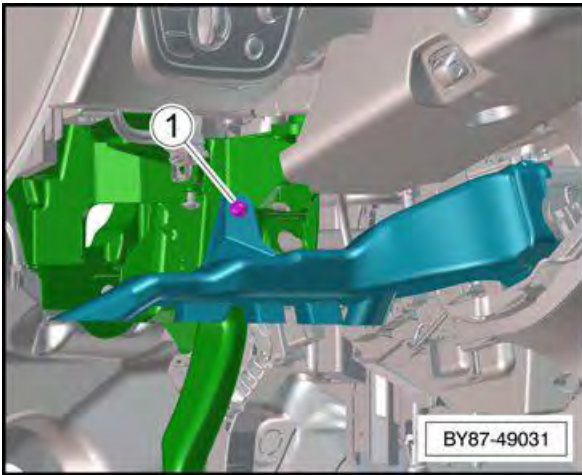

Figure 56
2. Once all the individual fasteners for the specific car have been checked then apply a red campaign completion mark to the top of the main electrical junction box adjacent to the right hand bonnet hinge (see Figure 56)
3. Remove the left hand side foot well vent fastener Figure 56 (point 1)